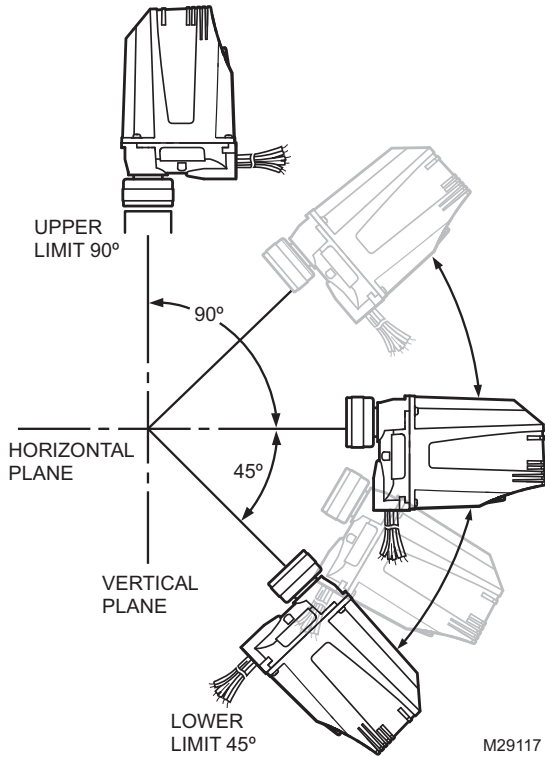

Fig. 5. C7061 mounting positions.
NOTE: The C7061 Self-Checking Flame Detectors incorporate a shutter mechanism and, therefore, require special consideration for mounting positions other than vertically sighting downward, as illustrated in Fig. 5 & 6.
- The C7061 has an arrow indicator on the back of the cover to facilitate mounting (see Fig. 5). The arrow must be vertically aligned and pointing downward.
- The C7061 must be mounted with the conduit opening located 90 degrees below the horizontal (see Fig. 5 & 6) pointing down.
- While the C7061 may be mounted as much as 45 degrees below the horizontal plane as shown in Fig. 5, this may increase the likelihood of soot buildup on the viewing window.